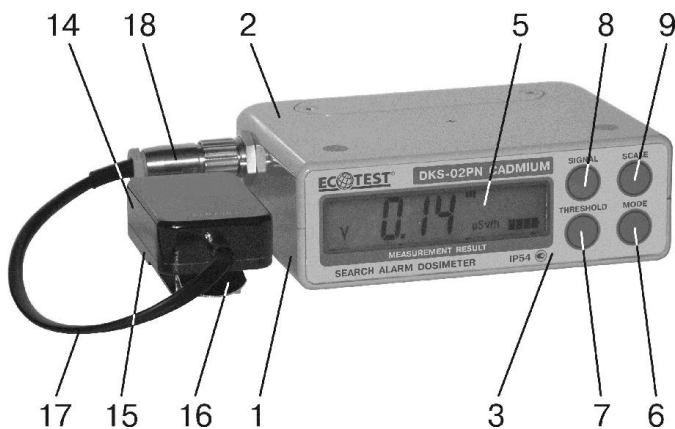

Figure 1 – Appearance of the control panel and the split warning device of the DKS-02PN “CADMIUM” dosimeter
1.4.1.1 Appearance of the dosimeter is presented in Figures 1, 2 and 3. The dosimeter consists of the control panel and the vibration-audible warning device, which is connected to the control panel with the help of a short cable with a split (hereinafter – split warning device). The delivery kit also includes the additional vibration-audible wrist warning device with Bluetooth radio channel (hereinafter – wrist warning device) that provides wireless connection to the control panel.
1.4.2.1 The control panel of the dosimeter is designed as a steel dust- and damp-proof housing. The operating position of the dosimeter is vertical (with indication and control elements upwards). The ingress protection rating is IP54. The housing of the control panel consists of (Figure 1, 2 and 3) the front (1) and the rear covers (2), the panel (3) and the battery compartment lid (4). The liquid crystal display (LCD) (5) and the MODE (6), THRESHOLD (7), SIGNAL (8), SCALE (9) buttons are located on the top panel. The split (10) for connecting the split warning device is adjusted on the left side wall. The compartment (11) for storage battery (12), which is closed with the lid (4) with the help of two captive screws (13), is located on the front cover. The leather case is used for fastening the control panel on a belt (not shown in figure).
1.4.2.2 The split warning device (Figure 1) is designed as a steel housing consisting of two covers (14 and 15) and a spring (16), which is intended for securing the warning device on a belt. To connect the warning device to the control panel, a cable (17) with a split (18) is provided.